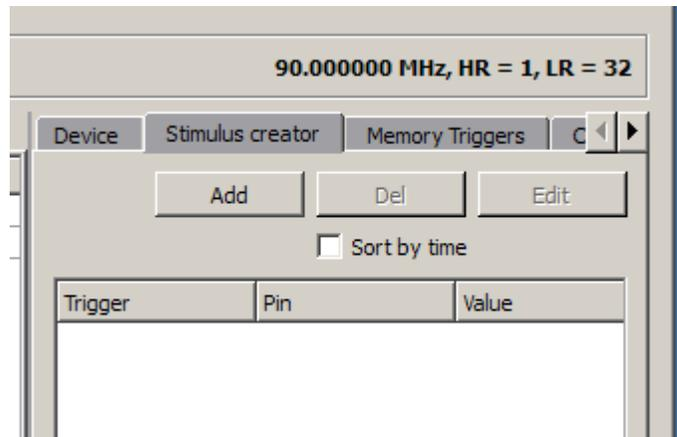

Figure 17. Stimulus Creator
13. To test a program that performs an input capture function, stimulus on the capture pin must be provided during simulation. There are several ways to provide stimulus; in this tutorial, the built-in Stimulus Creator is used. When the simulator starts, find the Stimulus Creator tab in the upper right hand pane of the HET IDE window (see Figure 17).